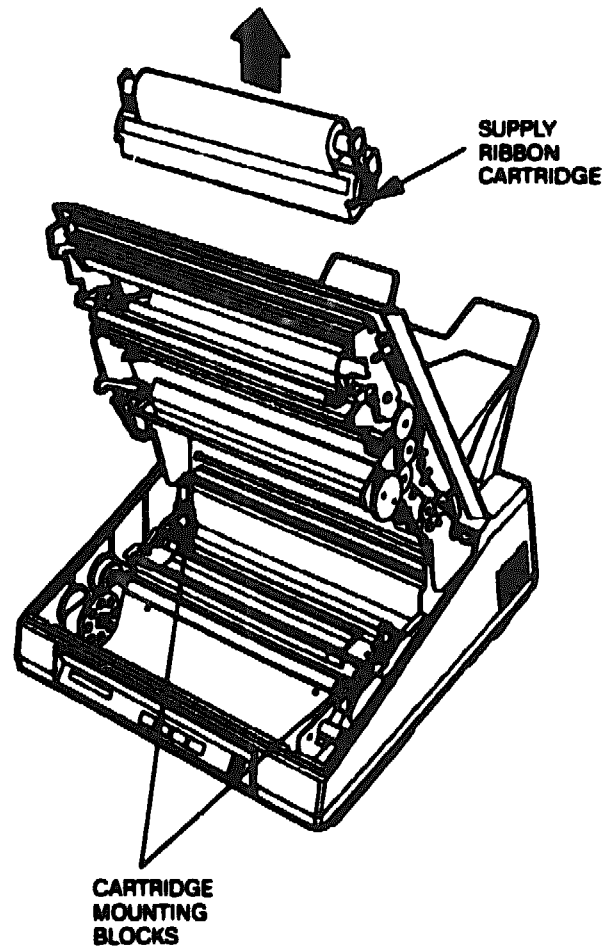

Figure 2-7 Removing the Supply Ribbon Cartridge
5. As shown in Figure 2-7, lift the supply ribbon cartridge off the mounting blocks. Discard the old cartridge and take-up ribbon roller.